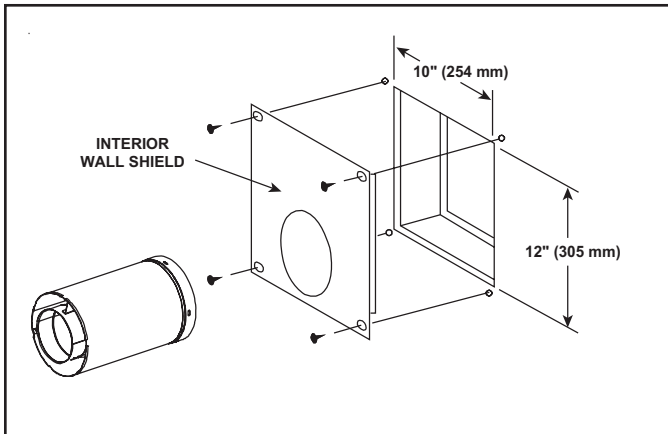

Figure 10.13 Flue Pipe & Firestop
**For Horizontal Runs** - Firestops are **REQUIRED** on both sides of a combustible wall through which the flue passes. See Figure 10.13.